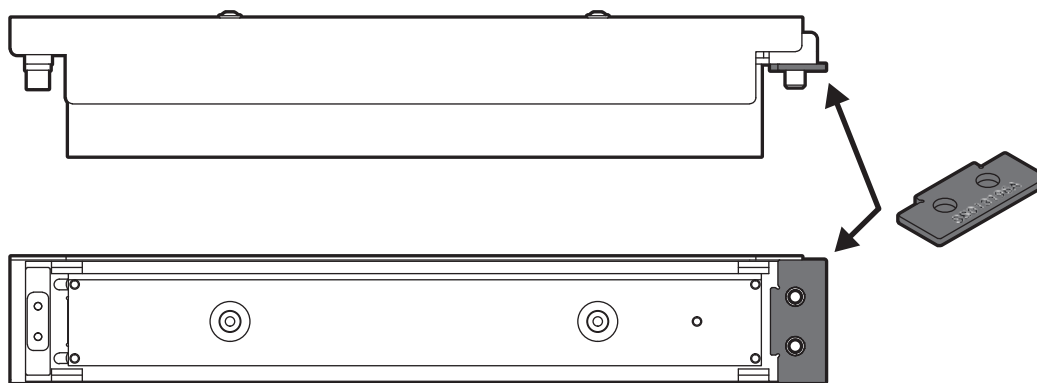

Fig. 8 Linear bearing washer II installation location (front and bottom view of Recoater blade).
- b. Linear bearing washer II - Place an additional washer (with a stamped number) between the Linear bearing washer and the Recoater Blade (right side). Fasten everything with two M6x10 screws with the serrated washers (fig. 8).